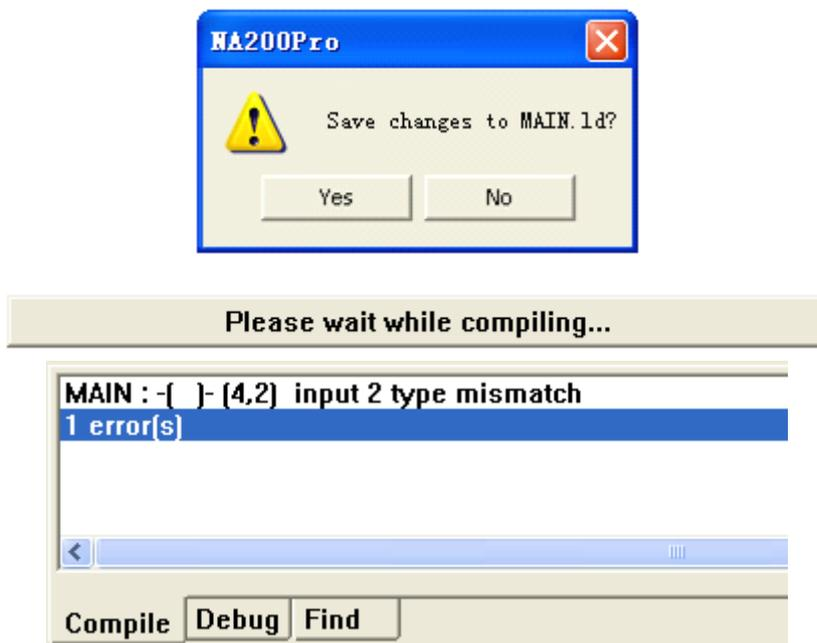

Fig.2.10 Compile program
**【 Compile Program 】** : Compile the current program. If the program is changed, the programming software will prompt to save or not. Then automatically check the error in the current program, if there is wrong, it can't be compiled, at the same time, the **Compile** tab of output window points out the error place, error type and the number of errors, as shown in Fig.2.10: